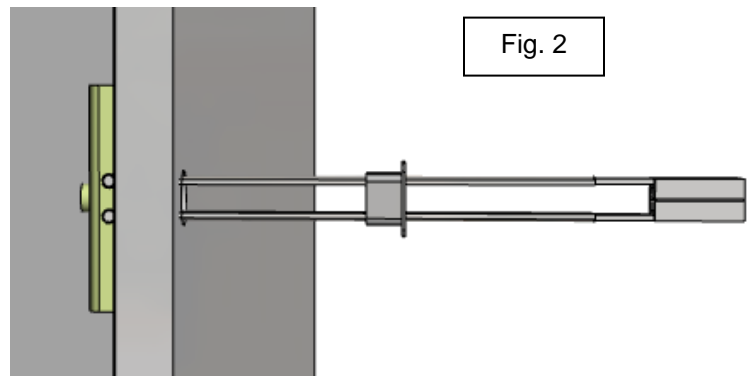

Fig. 2
2. Hold ends of straps between thumb and forefinger and pull toward you until channel rests flush behind wall. Slide plastic cap along straps with other hand until flange of cap is flush with wall. Fig. 2